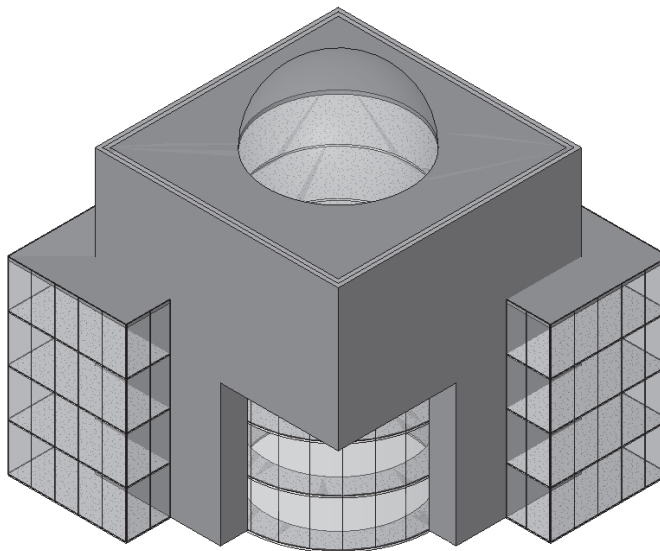

Figure 9-53 Converting massing into roofs
23. Similarly, create the roof of the same type for the two wings. After the roofs are created, the 3D view will appear similar to the Figure 9-53.